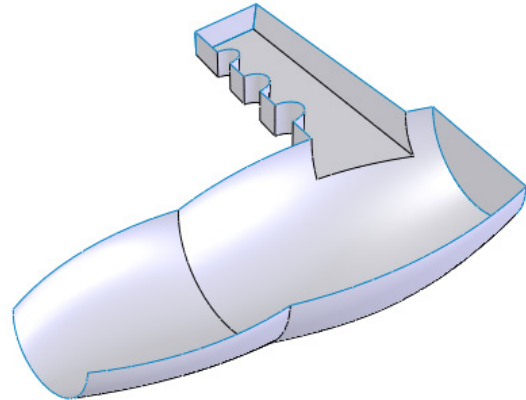

Figure 1-152 Resultant trimmed surface
6. Choose the **OK** button from the **Trim Surface PropertyManager**; the surface is trimmed. Figure 1-152 shows the resultant trimmed surface.